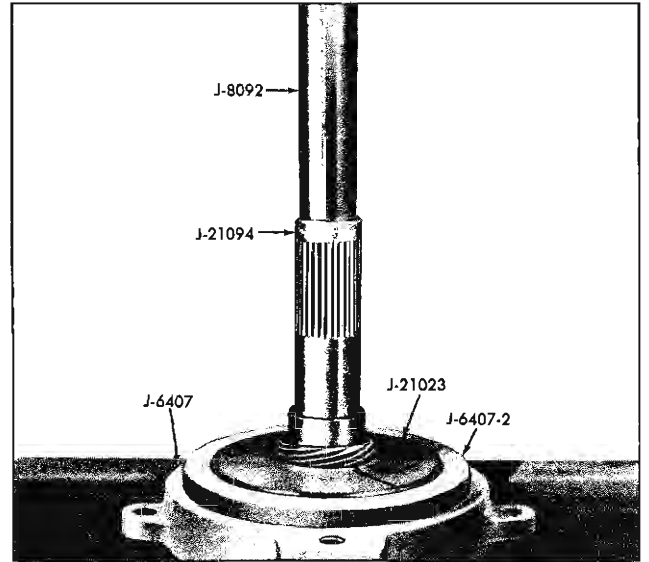

Fig. 4-38 Removing Speedometer Drive Gear
2. Press off speedometer gear using J-21023 held in J-6407 holder, and J-8092 handle with adapter J-21094 (Fig. 4-38).